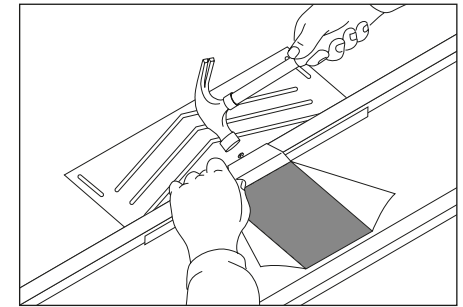

Fig. 5 – Secure soaker tray
- 3 Make horizontal cut in underlay, 390mm long, at a distance 150mm above bottom edge of tiling batten, supporting vent tile and slide soaker tray under batten and through slit in underlay (Fig. 5).